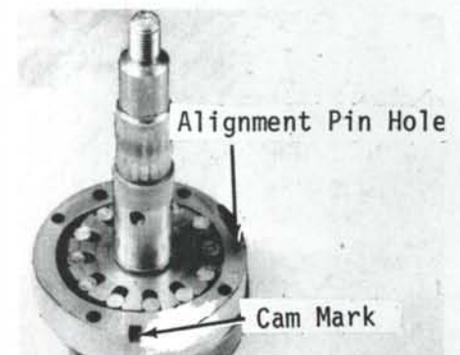

Fig. 48—Install cam ring with cam mark towards drive end of shaft. Install alignment pin in smallest hole in cam ring.
To reassemble, install drive key (16) and carrier (15) on shaft. Position manifold plate on the cover with timing grooves (Fig. 47) facing up. Assemble shaft into bore of manifold plate. Install cam ring (Fig. 48) with cam mark towards drive end of shaft as shown, then install rollers in carrier. Position alignment pin in smallest hole in cam ring. Install end plate (9—Fig. 46) and the two retaining screws, but do not tighten screws.